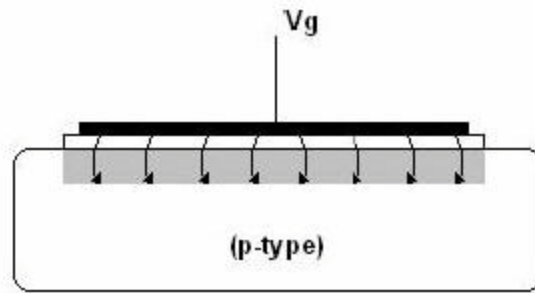

Fig 4.2b: Depletion Mode (light grey layer – depletion region)
2. **Depletion:** As we move from negative to positive gate voltages the holes at the interface are repelled and pushed back into the bulk leaving a depleted layer. This layer counters the positive charge on the gate and keeps increasing till the gate voltage is below threshold voltage. As shown in Fig. 4.2b we see a larger effective dielectric length and hence a lower capacitance.